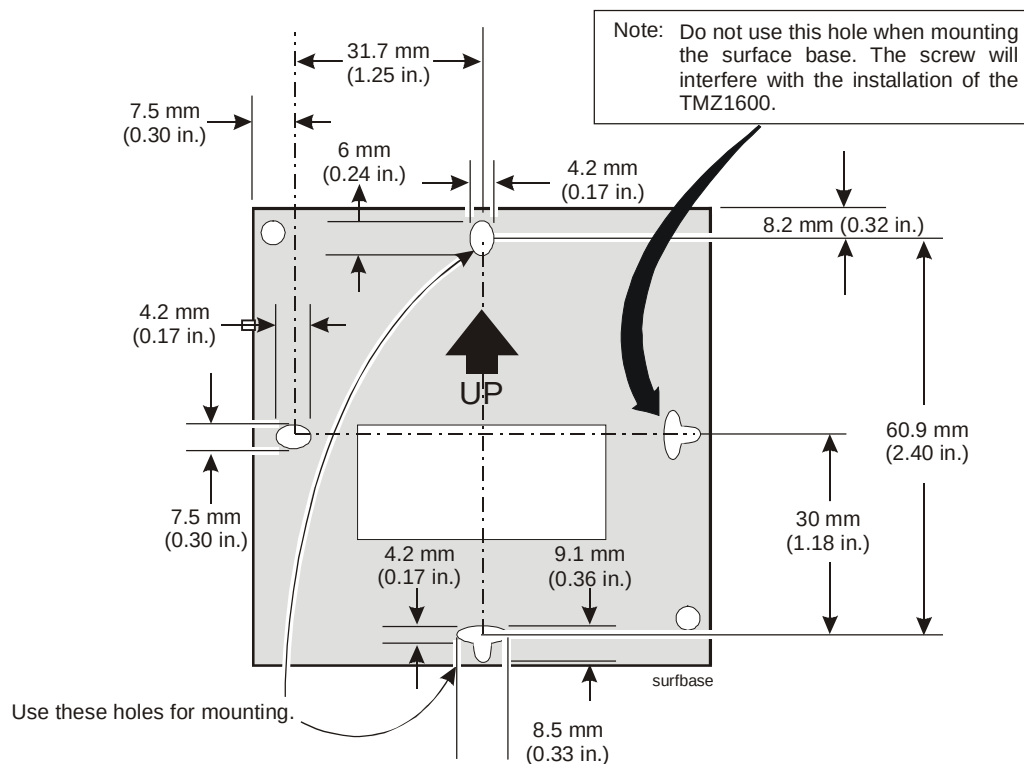

Figure 2: Surface Base
2. Place the surface base against the wall with the arrow pointing up, and mark the screw holes using the base as a template. Use the top and bottom holes for mounting (Figure 2).